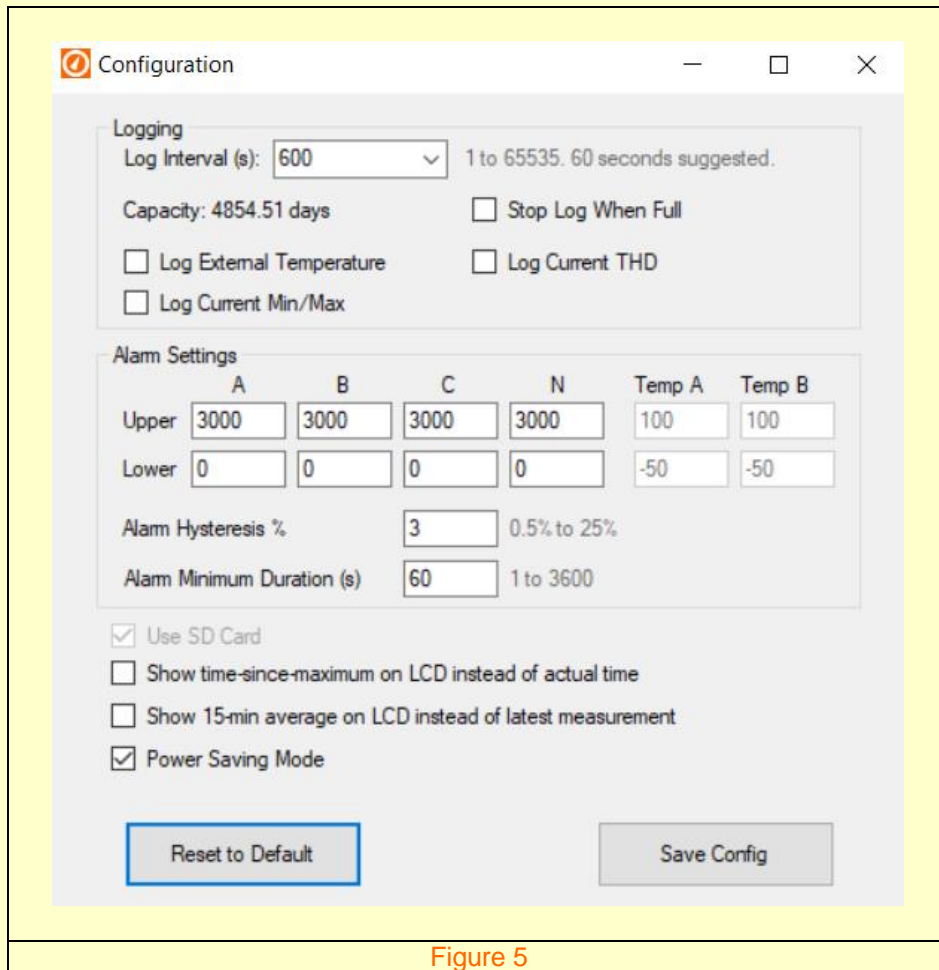

Figure 5
3. The user has various options within this page, such as: 'Configuration'; 'Download'; and 'Upgrade Firmware'. By selecting the 'Configuration' option, the user will be prompted with a window as shown in **Figure 5**.
4. The Mirrin's default configuration is shown in **Figure 5** and is sufficient for the majority of applications. However, the user should review the configuration to ensure that the correct settings are selected for their specific application.